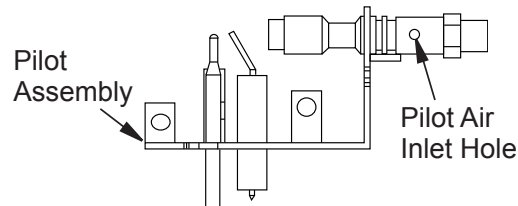

Figure 57 - Pilot Inlet Air Hole (Your pilot may vary from pilot shown)
2. Inspect burner, pilot and primary air inlet holes on injector holder for dust and dirt (see **Figure 57**).
Clean pilot assembly also. Additional cleaning may be needed for proper pilot operation based on use/lack of use. A yellow tip on the pilot flame may indicate dust and dirt in the pilot assembly. There is a small pilot air inlet hole about from where the pilot flame comes out of pilot assembly (see **Figure 57**). With unit off, lightly blow air through air inlet hole. You may blow through a drinking straw if compressed air is not available.